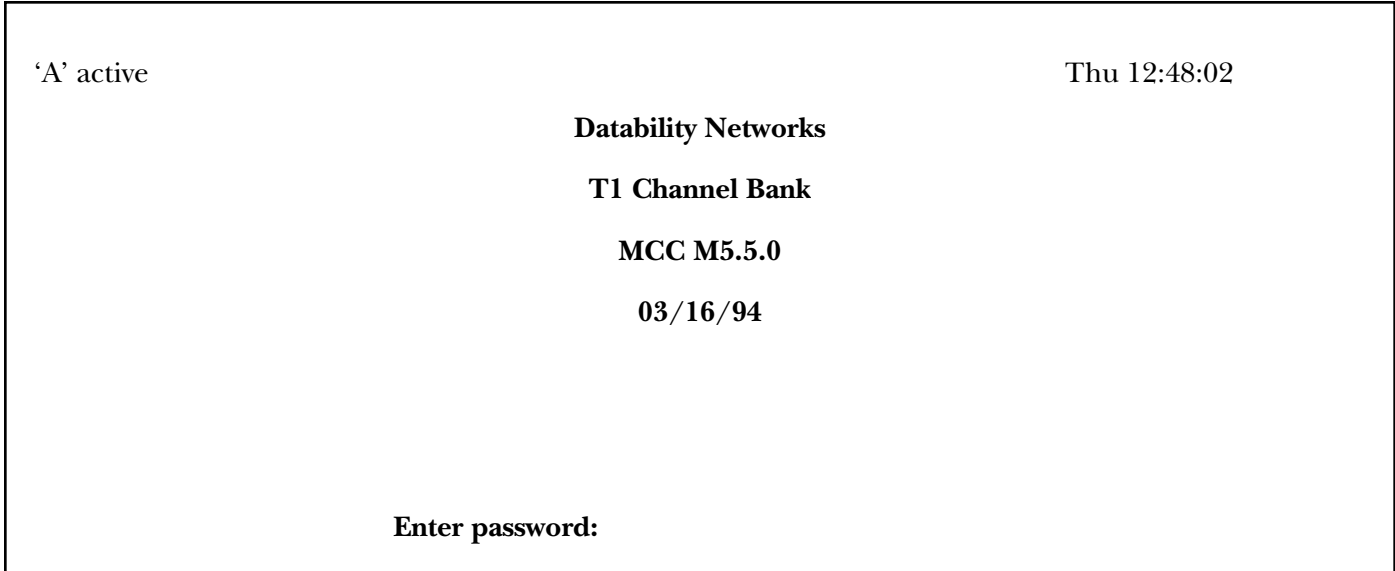

Fig. 8-2. Opening Menu.
3. After turning on the system, press the Enter key. The opening screen appears. See **Fig. 8-2** for the screen example.